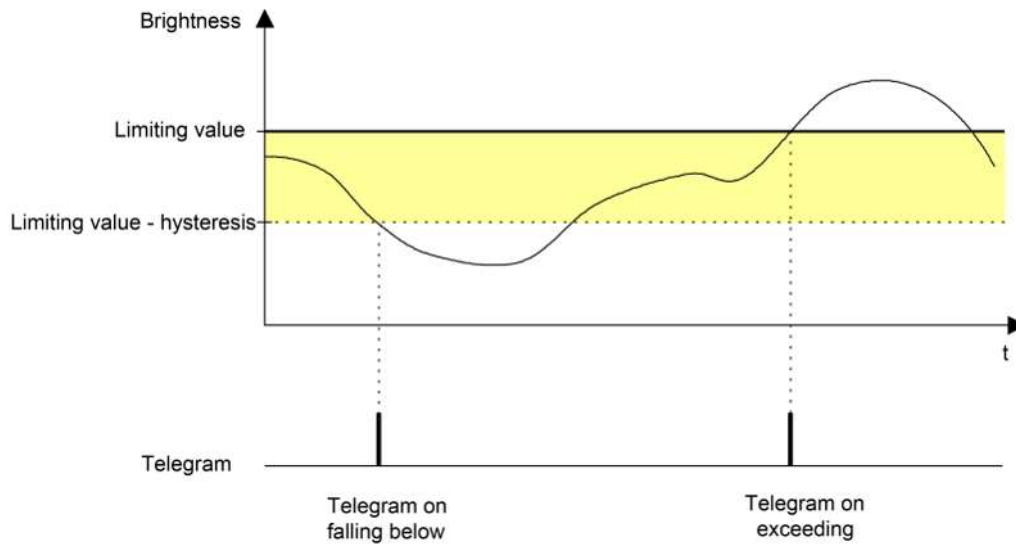

Figure 54: Example 1 of the limit value definition
1. Brightness limit value = upper threshold (see figure 54)